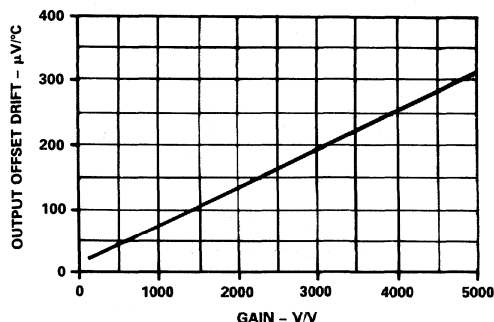

Figure 7. Total Output Offset Drift vs. Gain
**Input Offset Voltage Drift:** The chopper front end of the 1B32 gives it excellent input offset stability. As shown in Figure 7, it typically exhibits drift of ±0.07μV/°C RTI at a gain of 1000V/V (±75μV/°C RTO). The measurement is two-point, and is taken at -25°C and +85°C, which covers the specified temperature range of the 1B32.